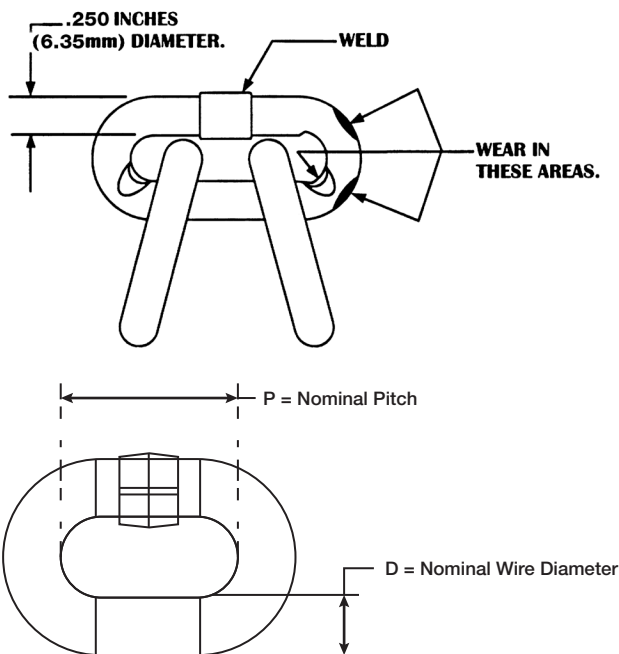

Figure 10. Chain Wear Areas
3. Slack the portion of the chain that normally passes over the liftwheel (sprocket) or idler sprocket on multi-reeved hoist. Examine the chain links for wear (see figure 10). If the wire diameter anywhere on the link measures less than 90% of the nominal wire diameter, the chain must be replaced.